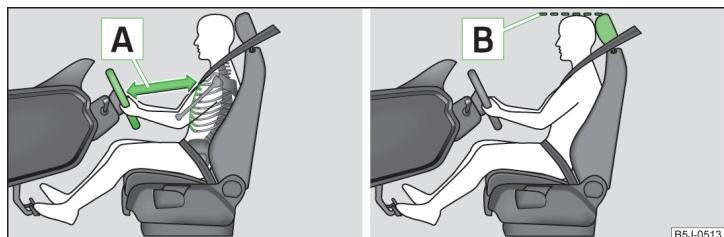

Fig. 1 The correct distance of the driver to the steering wheel/correctly adjusted head restraint
- ✓ Adjust the steering wheel so that the distance **A** between the steering wheel and your chest is at least 25 cm » Fig. 1, Adjusting the steering wheel position.
- ✓ Adjust the head restraint such that the top edge of the head restraint is at the same level as the upper part of your head **B** » Fig. 1 on page 7 » page 7.
- ✓ Adjust the head restraint such that the top edge of the head restraint is at the same level as the upper part of the head  » Fig. 1 on page 7 » page 7.